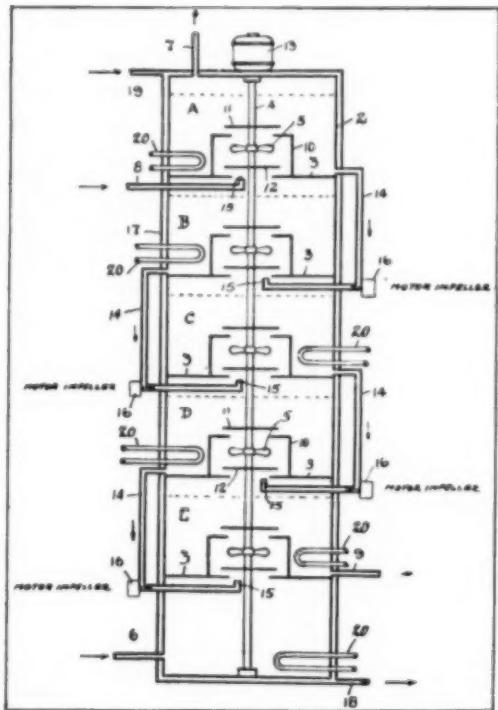

Fig. 7.
A vertical mixer-settler with a common shaft for all mixers (6) is shown in Figure 7. The heavy phase is pumped from stage to stage, the light liquid flows by gravity, and the liquids flow cocurrently while settling. The ratio of phases in the mixing chamber is relatively independent of flow rate because the interstage pumping may be